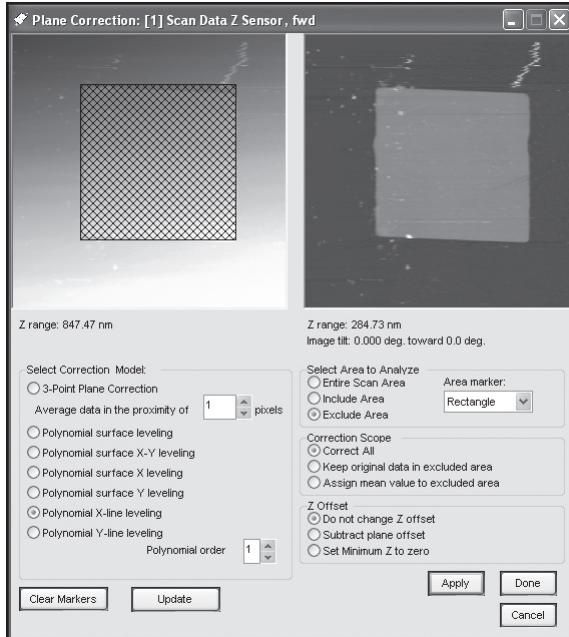

Figure 2.45: Plane Correction Dialog Window
4. Click the Plane Correction button as shown in Figure 2.45 to apply Plane Correction.